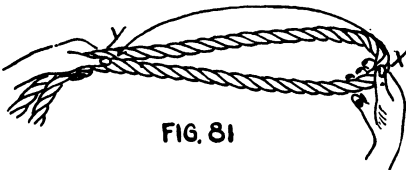
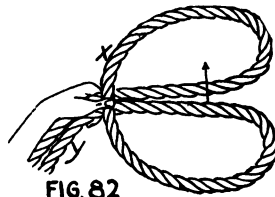
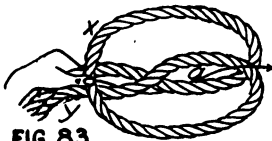
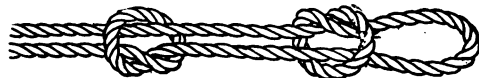

FIG. 81
FIG. 82
FIG. 83
FIG. 84
**Fisherman's Eye Knot.** This knot may be made by the method just described or by another method somewhat more complicated but much quicker when learned. Make a bight in the rope (fig. 81). Then grasping the bight with the right hand at  $x$  lay it over on the two strands at  $y$  thus forming two loops (fig. 82). Now cross the loops as in fig. 83 and with the right hand draw the strand  $x$  down between the two ropes  $y$  and up through the loop  $a$  as indicated by the arrow in fig. 83. Fig. 84 shows the knot completed.